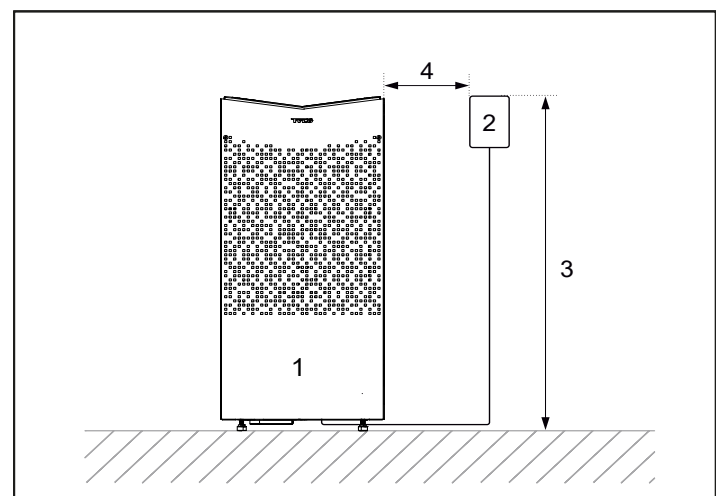

Figure 5: Safety distance / installation height, control panel
- Plan the control panel positioning (see the attached instructions for the control panel for allowable positioning). See also the Control Panel section, Figure 5.
Where possible, placement of the control panel outside the sauna room is recommended due to lower ambient temperatures. The control panel may be placed inside a Tylö sauna room or a self-built sauna room with correct ventilation which operates according to Tylö-recommended ventilation (natural ventilation principle). Read the sections titled, Positioning the intake vent and Positioning the outlet vent in these instructions. The control panel must always be placed outside the sauna cabin if these requirements are not met. If installing the control panel inside the sauna cabin, it should be positioned with regard to safety distances and installation height, see Figure 5.